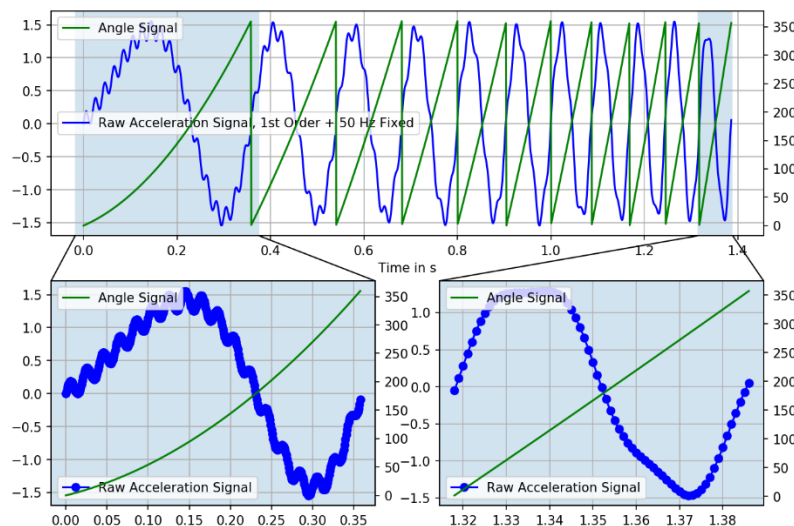

Figure 7-1: Separation into separate blocks per revolution (top); Decreasing number of samples with increasing running speed (bottom)
- Separation of the raw input signal into signal blocks per revolution (see Figure 7-1: top); One block represents one revolution; to achieve a high accuracy, the rotation angle is required therefore.
As the running speed of the DUT will change continuously and the sample rate is constant, the number of samples per revolution will decrease with increasing running speed (see Figure 7-1: bottom).